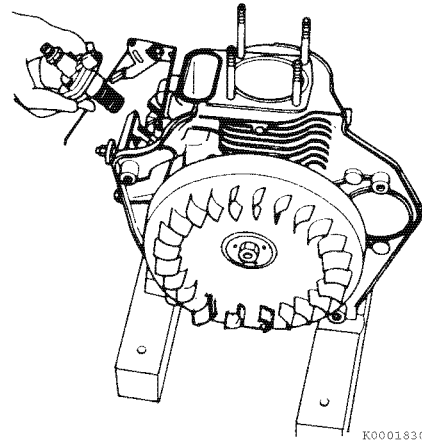

Figure 6-39
18. Remove the fuel injection pump (**Figure 6-39**).